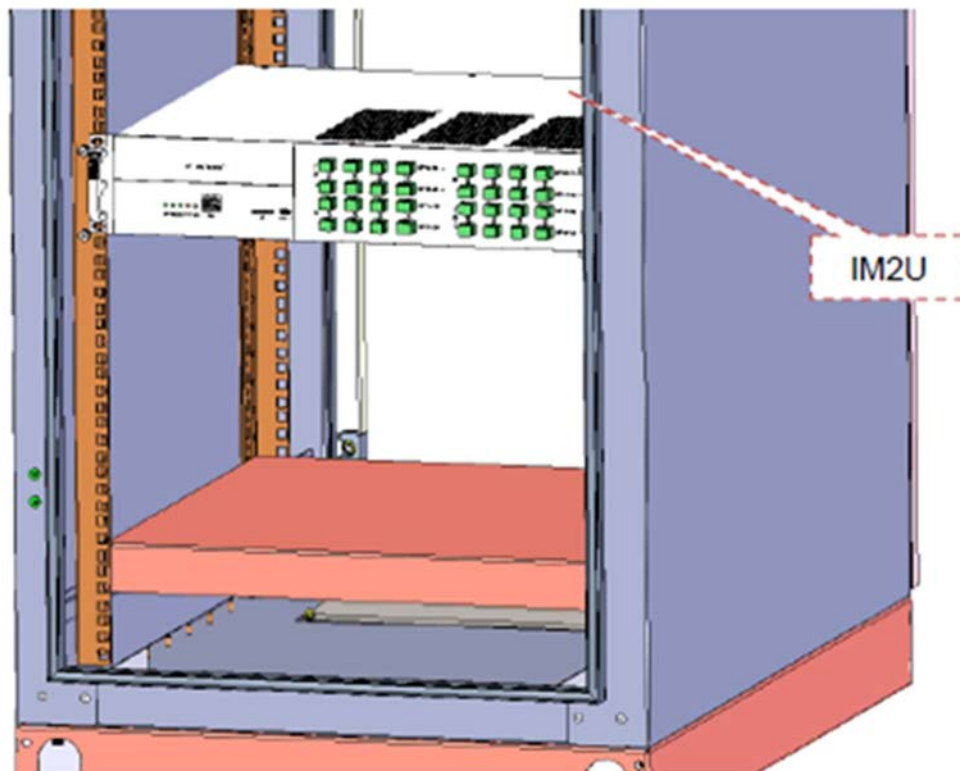

Figure 3-7 Push IM2U into the cabinet.
2. Push IM2U into the cabinet. as shown in Figure 3-7